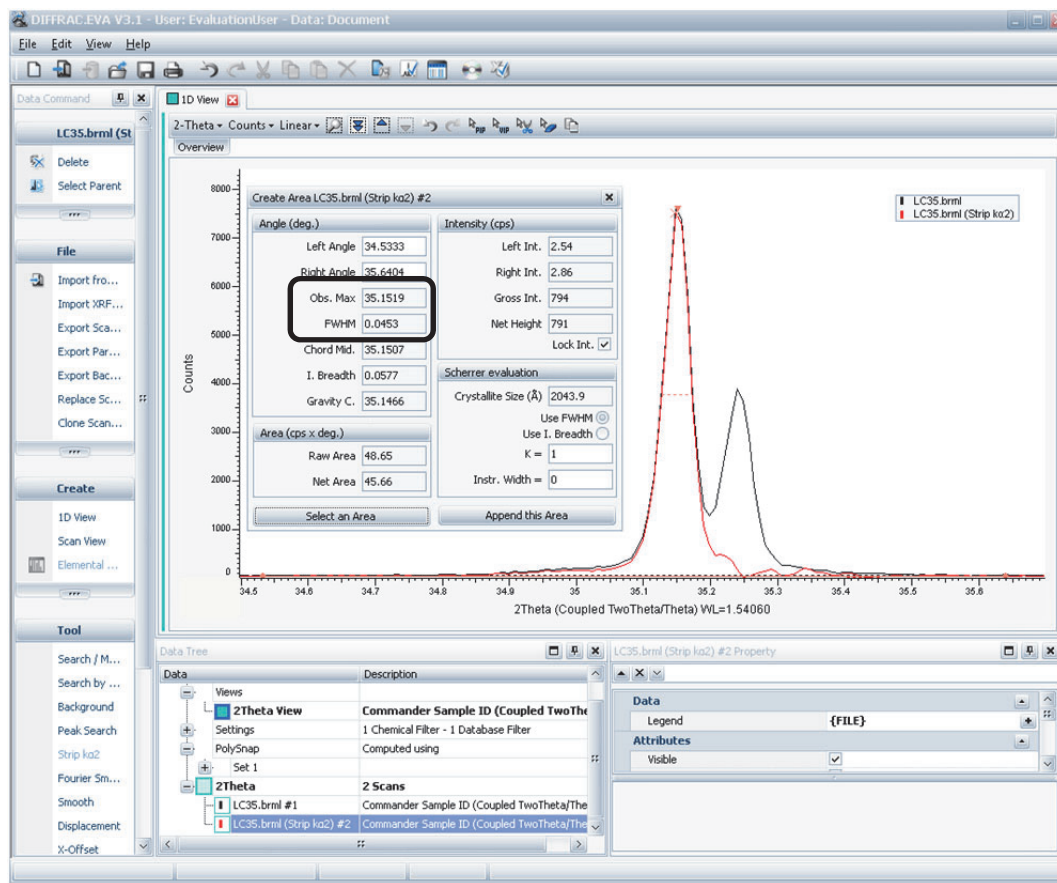

Figure 3.6: EVA main window and result for Create Area
2. Use the Create Area function in the EVA toolbox to create an area measurement using the complete measured range (see Figure 3.6). Use the mouse to select the range. Review the data displayed in Toolbox.